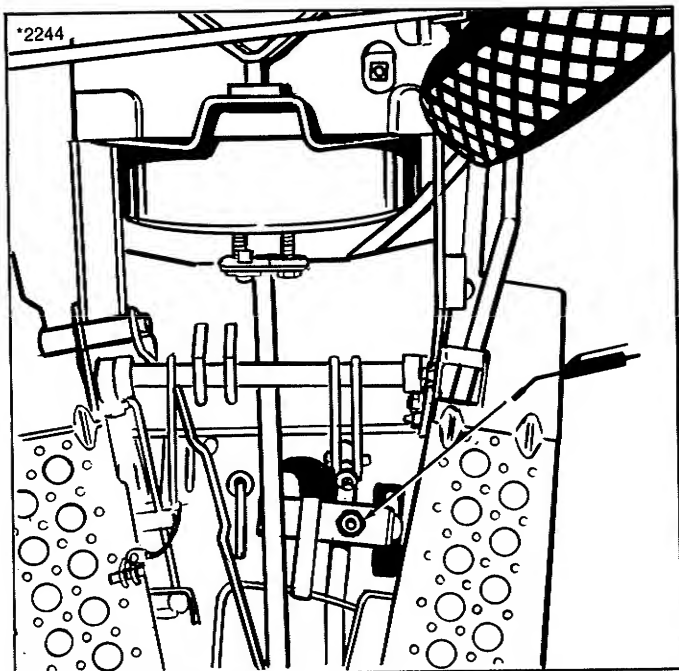

Figure 6. Grease Fitting
- c. One fitting on steering gear under tractor (figure 6);